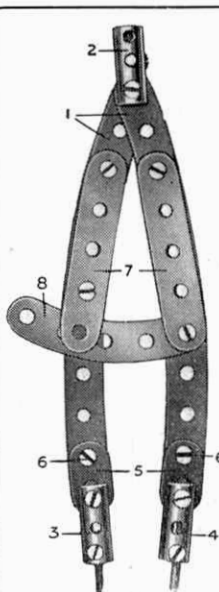

Fig. 13. Compasses
The novel Compasses illustrated in Fig. 13 comprise an ingenious adaptation of Meccano parts, and form an extremely useful instrument. The legs consist of two 5½" Curved Strips (1) meeting together within the slot of a Strip Coupling (2), and having their lower ends inserted in further Strip Couplings (3) and (4). Flat Brackets (5), bolted at (6) to the legs, are inserted in these Strip Couplings also, in order that their thickness, together with that of the 5½" Curved Strips, shall be sufficient to enable the Couplings to be secured rigidly to the legs by means of the bolts shown, which pass through both jaws of the Couplings.